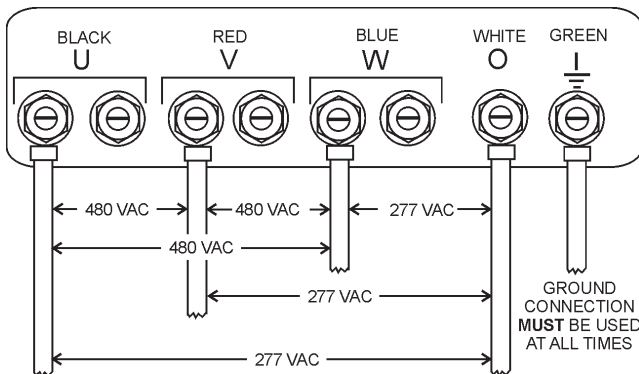

Figure 24. UVWO Terminal Lugs 1Ø-480/277V Connections
2. Connect the load wires to the UVWO terminals as shown in Figure 24.